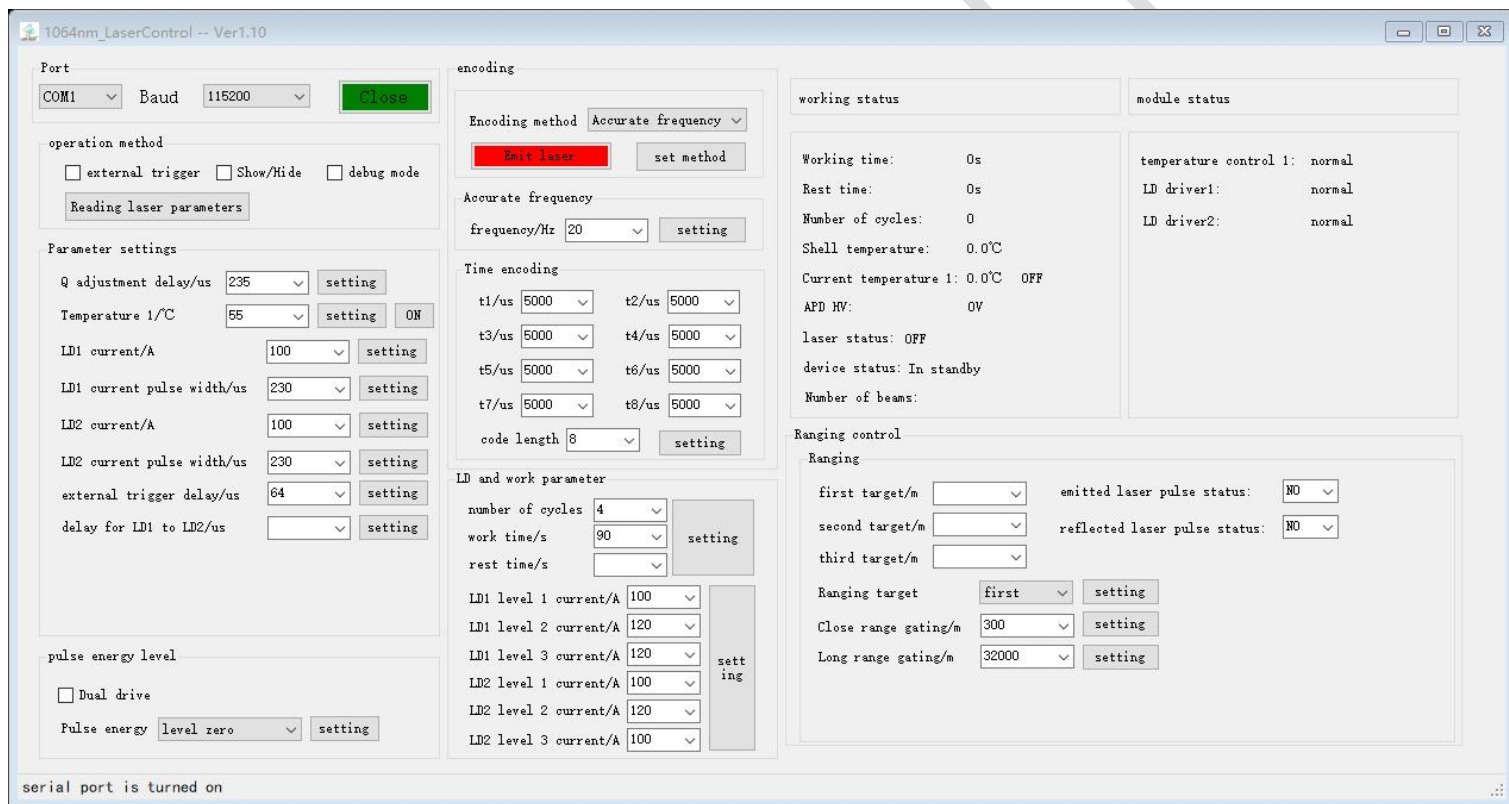

Figure 4.1 Laser Ranging Target Designator upper computer
- As shown in Figure 4.1, the host computer interface includes laser irradiator parameter setting and data display. Laser triggering mode (internal triggering, external triggering), encoding mode (precise frequency, time encoding), working time, driving current, etc. can be set.